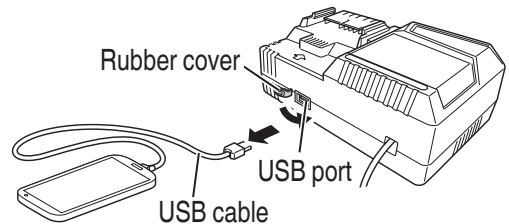

Fig. 9
- (3) When charging is completed
- Unplug the power cord from the electrical outlet. (**Fig. 9**)